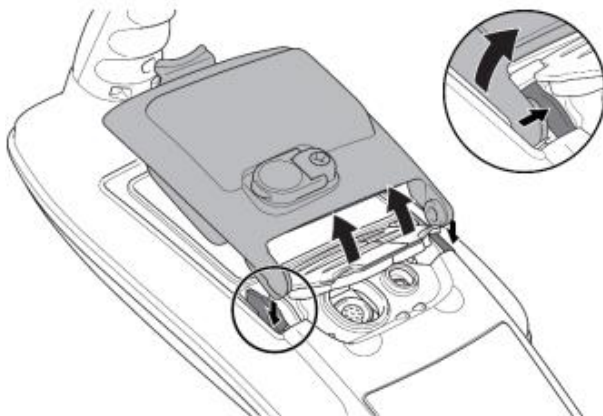

Fig. 4.6: Press the retaining latch inwards
3. Lift the accessory cover slightly and press the battery retaining latch inwards. (See figure 4.6)
To fit a new battery, lift both accessory covers slightly, then gently push the replacement pack into place until it clicks on both sides, then close the battery pack (figure 4.6).